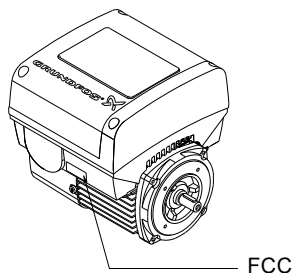

Fig. 77 FCC label
10. If the CIM module is supplied with an FCC label, then place this on the terminal box. See fig. 77.